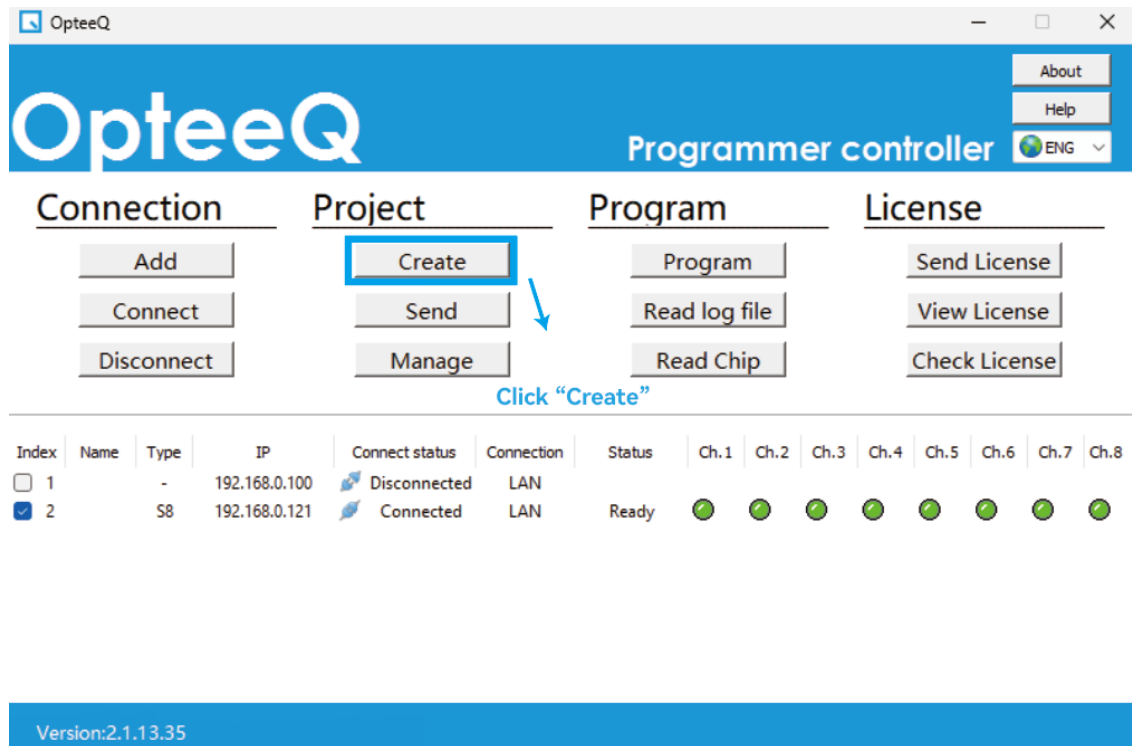

Figure 4.11 Step 1 - Project Creation
1) Step 1: Click "Create Project" (as shown in Figure 4.11).